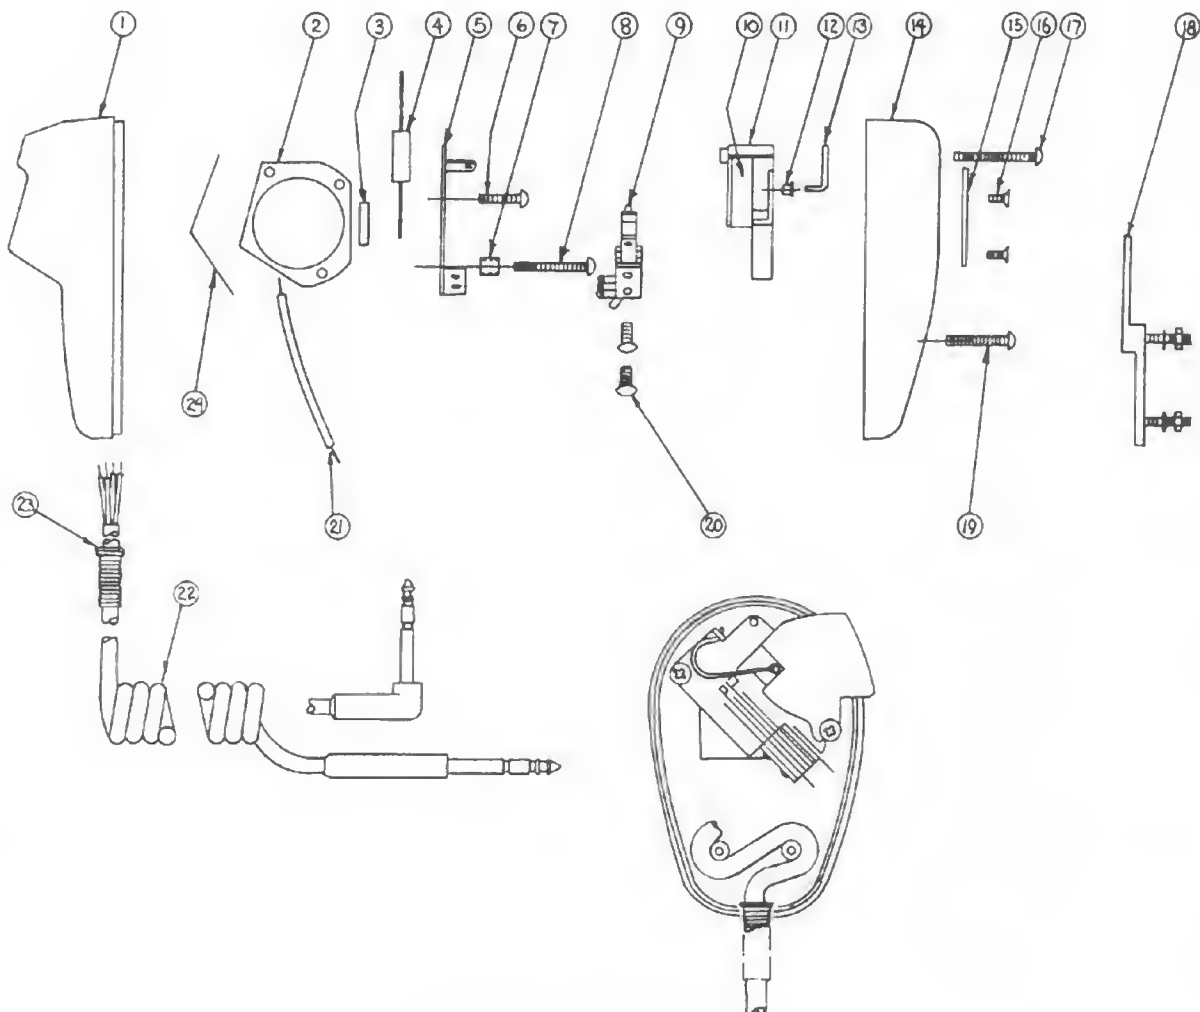

FIGURE 1 - Assembly Drawing
#### 2. Disassembly. (See Figure 1)
- b. Do not disassemble the head and capacitor sub-assembly (2) to (6) unless capacitor or head must be replaced. If this is necessary proceed as indicated in steps c. and d.
- c. Remove head by first removing screws (Items 6 & 8) and switch bracket (Item 5). See Figure 1.
- e. Do not unsolder leads to switch unless it is necessary to replace switch assembly or cable (10).